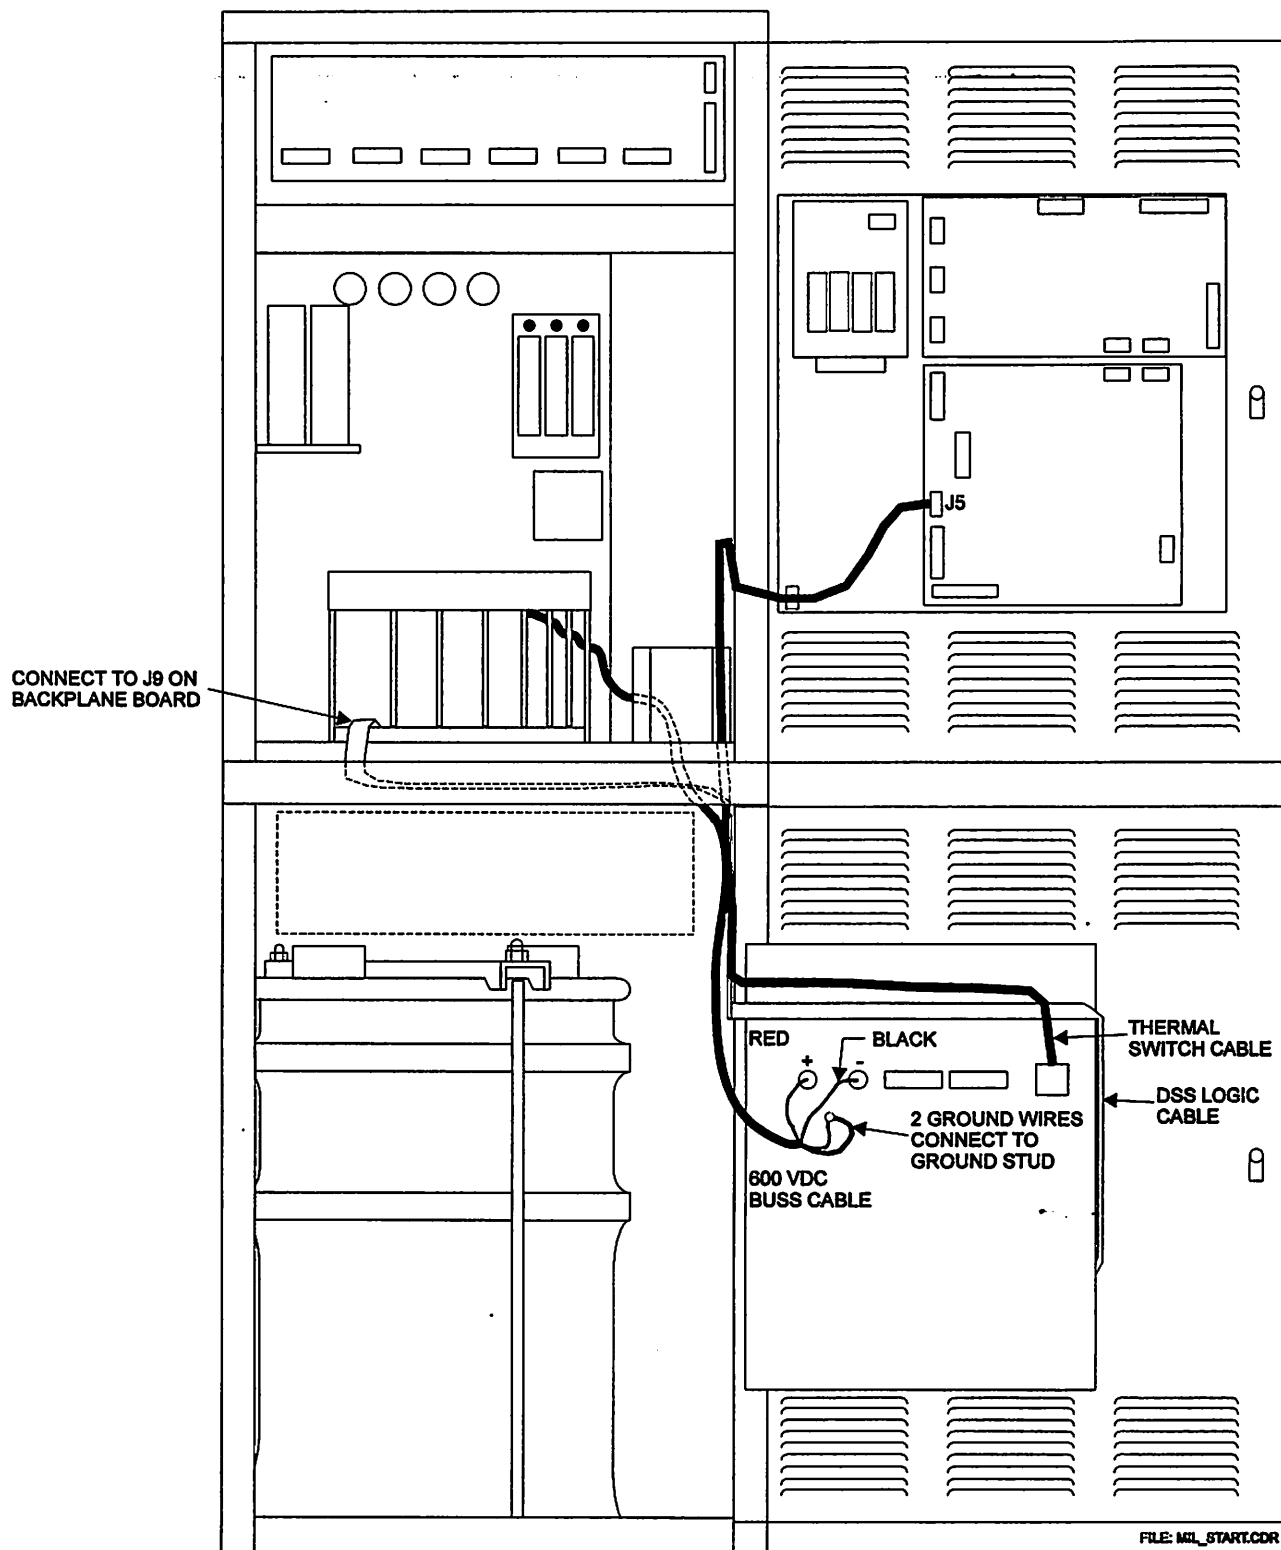

Figure 2-9: Dual speed starter wiring.
Refer to figure 2-9. This section applies only to units fitted with dual speed starter.
2. Route the 20 conductor DSS logic cable from the dual speed starter along the ceiling of the lower cabinet and up through the access hole in front of the power supply card cage. Then pass the end of the ribbon cable through the HF power supply card cage as shown in figure 2-9.
3. Route the X-ray tube thermal switch cable assembly through the appropriate cutouts in the two cabinets as per figure 2-9. Connect to J5 on the generator interface board.